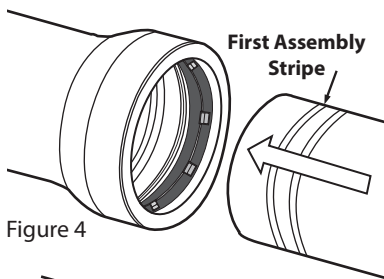

Figure 4
4. Join the spigot end to the bell. (Fig. 4) Ensure the plain end of the pipe is beveled (See page 5, Field Cut Pipe) - square or sharp edges may damage or roll the gasket. Insert the spigot end into the bell and keep both sections of the pipe aligned without deflection. Insert pipe until the entire first assembly stripe has disappeared into the bell. After insertion to the first assembly stripe, the pipe can be deflected (See page 5, Table 2). Use a feeler gauge to ensure that the gasket has not been dislodged from proper placement during installation.